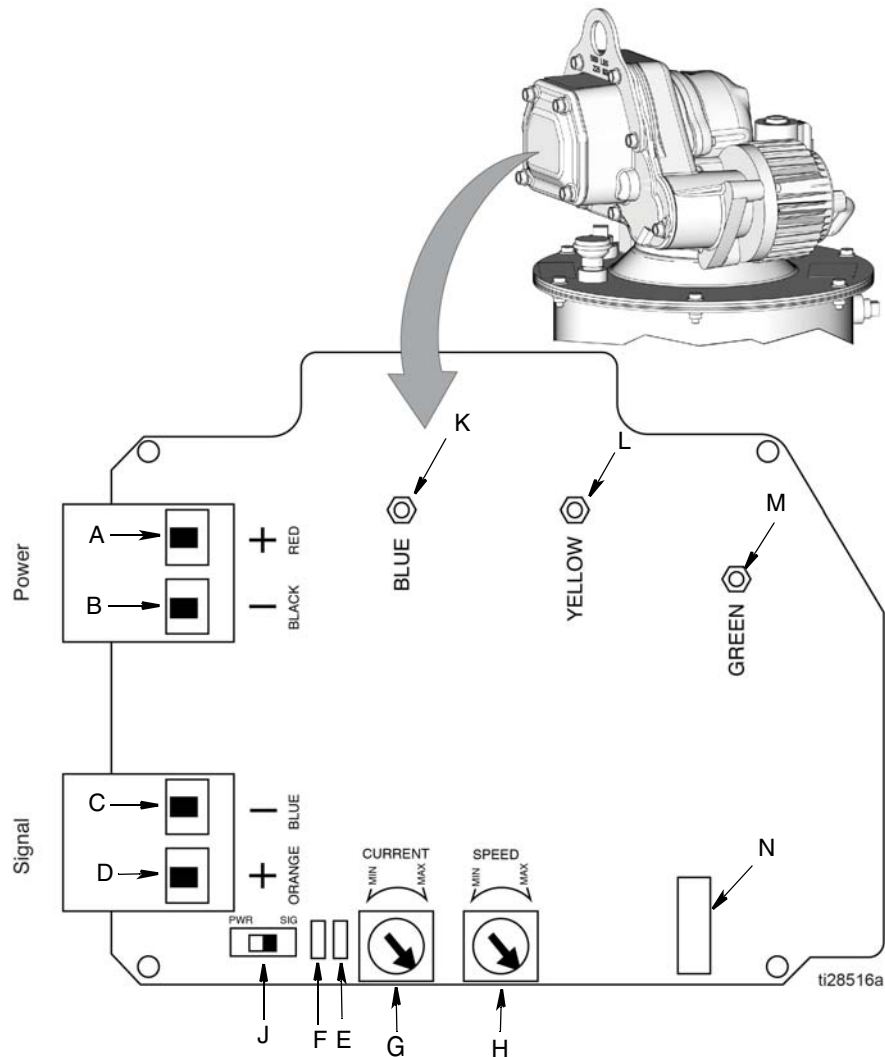

FIG. 8
- When the pump control switch (J, FIG. 8 page 10) is set in signal mode, the motor/pump runs when voltage is applied to the signal and power connectors.
- When the pump control switch (J, FIG. 8 page 10) is set in power mode, the motor/pump runs when voltage is applied to the power connectors. The signal connectors do not require voltage.